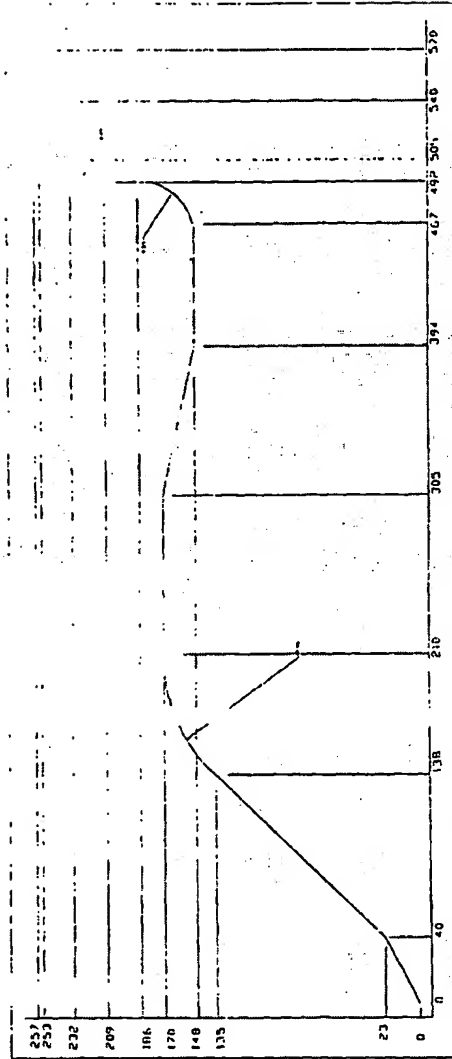
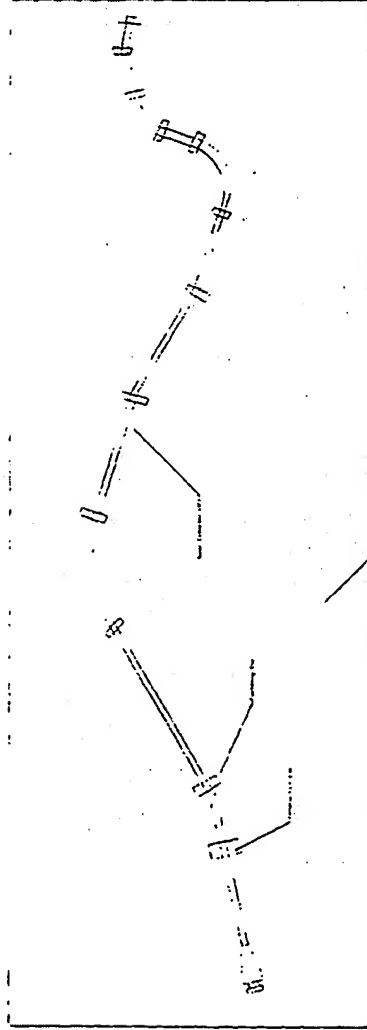

Fig. 1 Template of Guide Catheter path from femoral to carotid.
Fig 2: Manoeuvrability Test Fixture
- Dimensions: A dimensional description of the guide catheter path is detailed in Fig. 1.
- Shape: In the manufacture of the fixture it must be ensured that the guide catheter follows the path defined in Fig.1. The guide catheter is fastened to a flat sheet with plastic clips or it may be glued. The radii of curvature must remain constant at all times so as to ensure consistency of the data generated. Fig. 2 shows the guide catheter fastened to a perspex sheet.
- 6.2 Set the gauge length to 50mm. Place the tortuous path as shown in fig.1 into the clamps.